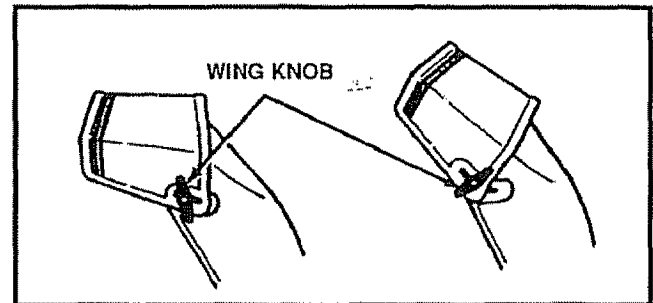

FIG. 8
- Loosen the wing knob on the chute deflector and move the deflector to set the **distance**. Move the deflector **UP** for more distance, **DOWN** for less distance. Then tighten the wing knob (See Fig. 8).